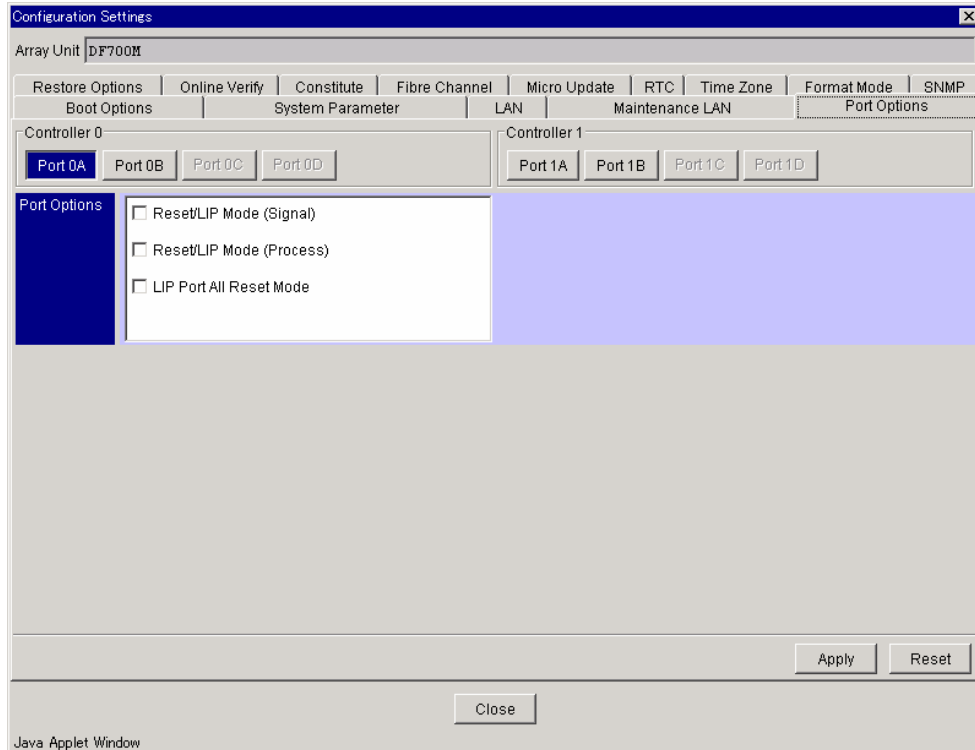

Figure 9.7 Configuration Settings - Port Options
2. Click the **Port Options** tab. See Figure 9.7.